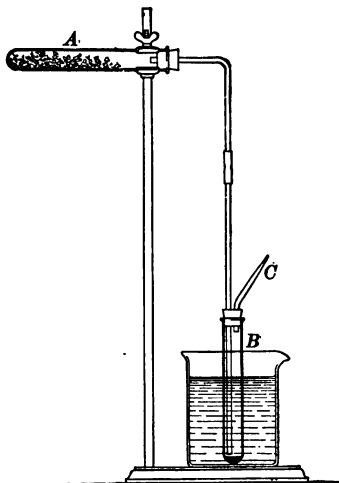

FIG. 28
**50. Carbon.** *a.* Arrange an apparatus as shown in Fig. 28. Partly fill the hard-glass test tube *A* with small pieces of wood—preferably with hardwood sawdust. Heat the wood, gently at first and then more strongly. After some liquid has collected in *B*, apply a light to the jet *C*. Are combustible gases evolved on distilling wood? Continue the heating as long as gas is evolved, then examine the liquid collecting in *B*. Is it soluble in water? How would you describe its odor? What is the residue left in *A*? Will it burn? Does it leave any ash?